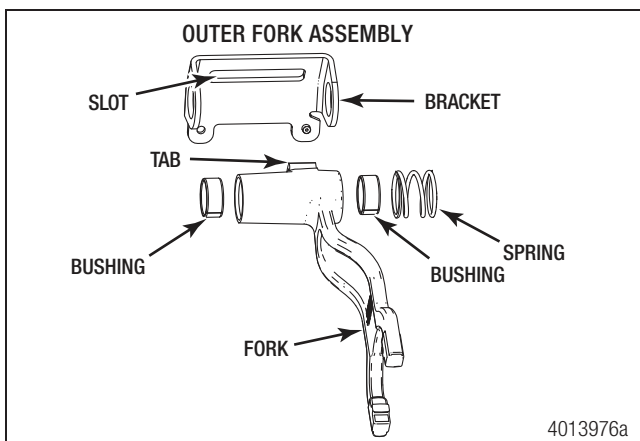

Figure 6.20
2. If disassembled, reassemble the outer fork assembly with one spring and two bushings in the bracket as shown in Figure 6.20. Make sure the tab on the end of the fork is engaged in the slot on the bracket when installed in the case.